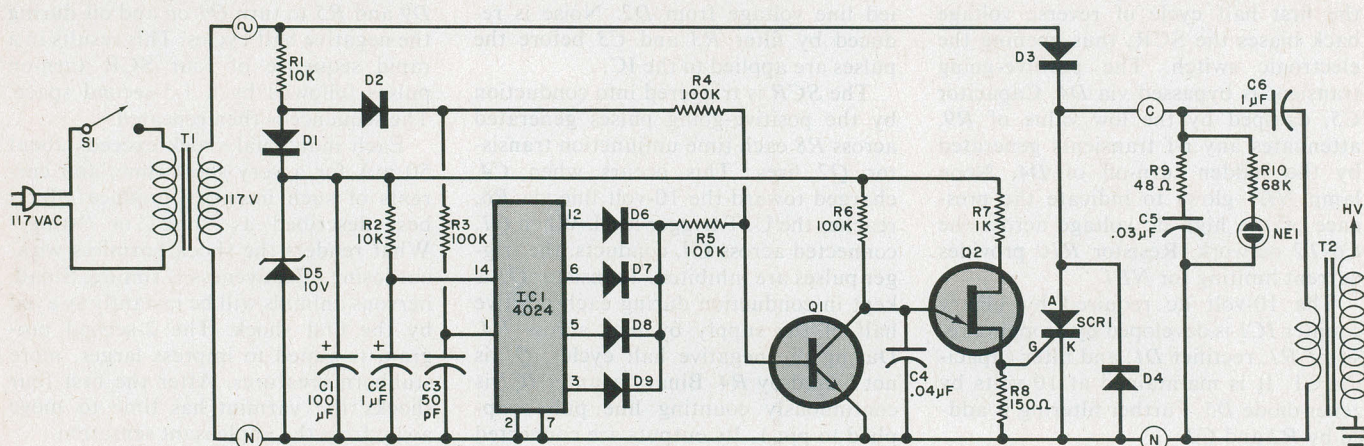

Fig. 1. Digital pulses from IC1 cause SCR1 to discharge C6 through primary of T2 to produce high voltage. Circled letters and symbol refer to foil pattern.
**Circuit Operation.** The operation of the circuit, shown in Fig. 1, is similar to